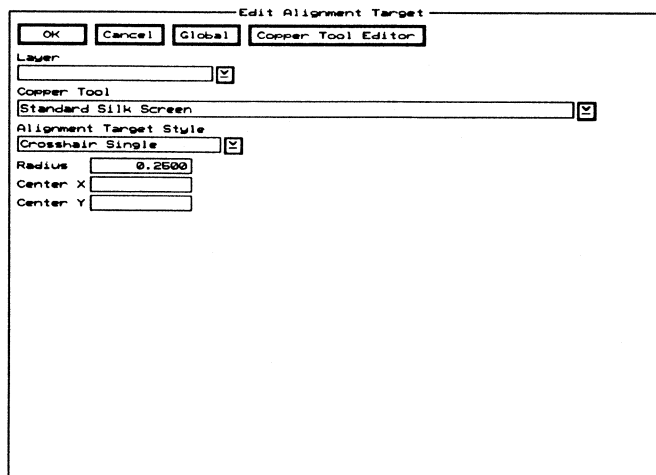

Figure 6-13. The *Edit Alignment Target* dialog box.
5. Select **Set**. The **Edit Alignment Target** dialog box displays (figure 6-13).